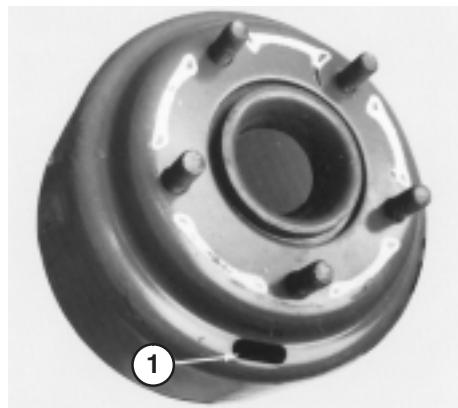
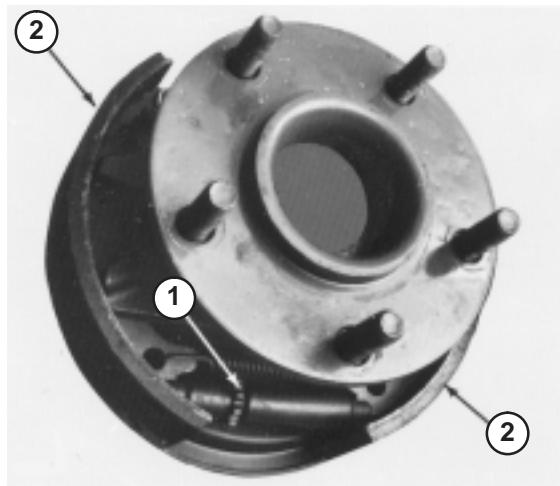

Figure 69
Figure 70
5. Remove wheel nuts and slide wheel and tire assembly off studs. Rotate brake drum until adjusting slot is at bottom and centered over star nut that adjusts brake shoes (Fig. 69).
- Using a brake adjusting tool or screwdriver, rotate star nut (Fig. 69) down until brake drum (Fig. 70) locks because of outward pressure of brake shoes (Fig. 70).